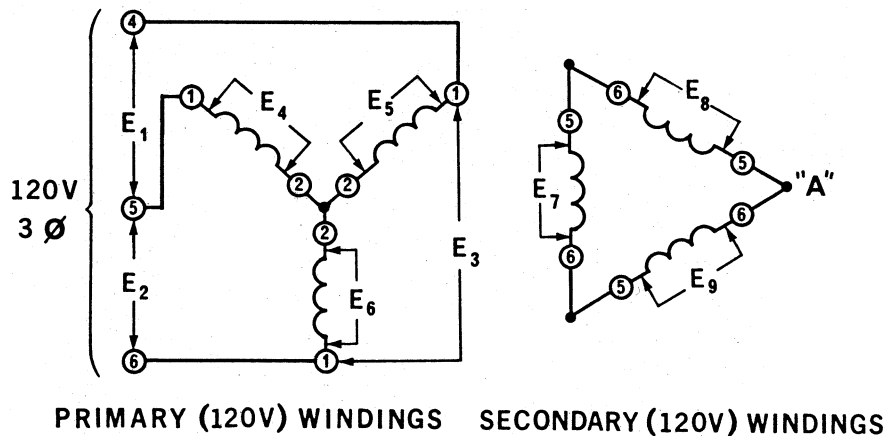

Figure 1-7.
- 3. a. The circuit shown in Figure 1-7 has three transformers connected in a _____ configuration.